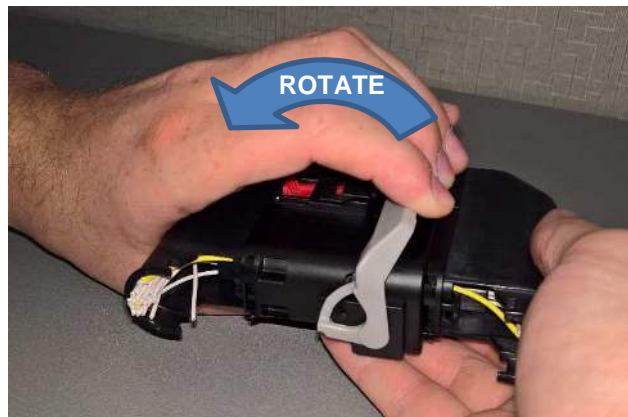

Figure 11
5. The lever can now be rotated toward the cap connector (See Figure 11), until it latches to the cap connector.